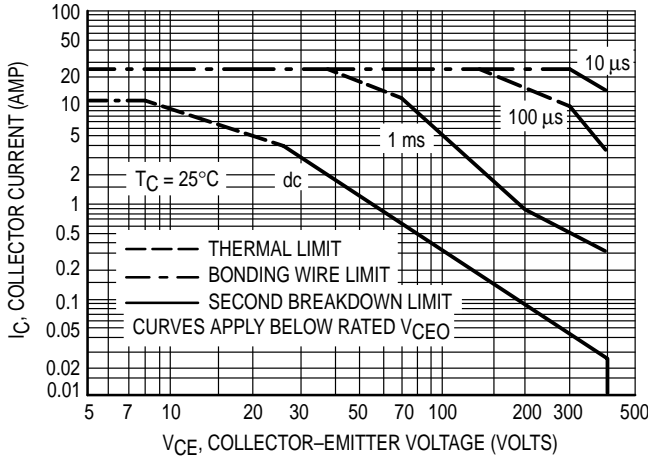
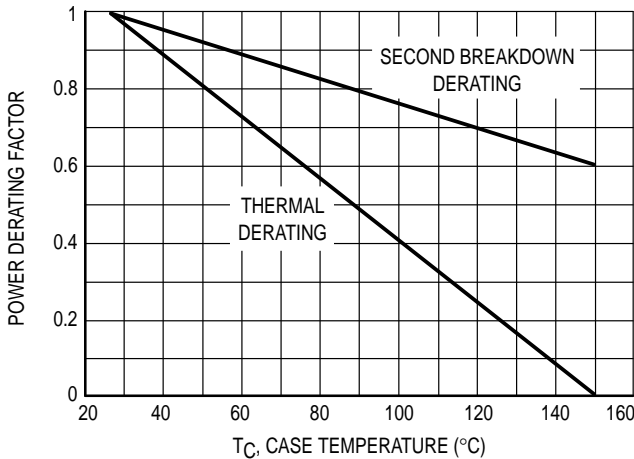

Figure 1. Forward Bias Safe Operating Area
Figure 3. Forward Bias Power Derating
The Safe Operating Area figures shown in Figures 1 and 2 are specified ratings for these devices under the test conditions shown.
The data of Figure 1 is based on $T_C = 25^\circ\text{C}$; $T_{J(pk)}$ is variable depending on power level. Second breakdown pulse limits are valid for duty cycles to 10% but must be derated when $T_C \geq 25^\circ\text{C}$. Second breakdown limitations do not derate the same as thermal limitations. Allowable current at the voltages shown on Figure 1 may be found at any case temperature by using the appropriate curve on Figure 3.
- (1) The device thermal limitations are not exceeded.
- (2) The turn-on time does not exceed 10 μ s (see standard pulsed forward SOA curves in Figure 1).